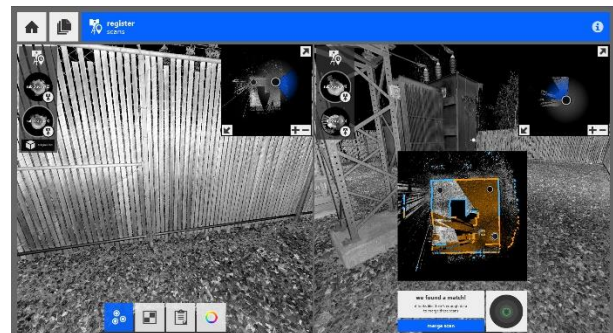

Figure 5: Select Scans to Begin Registration
- Click on one of the scan files on the left of the window. This will bring up two scans side by side where you can begin to select common targets and points to register the scans (Figure 5)